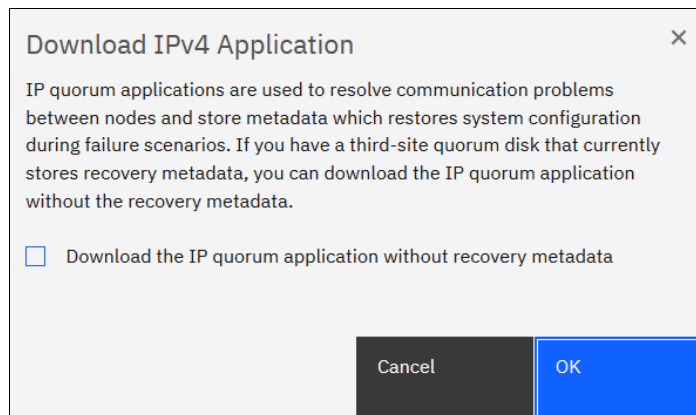

Figure 2-55 Download IP quorum application window
2. Click **Download...** and a window opens, as shown in Figure 2-55. It provides an option to create an IP application that is used for tie-breaking only, or an application that can be used as a tie-breaker and to store recovery metadata.